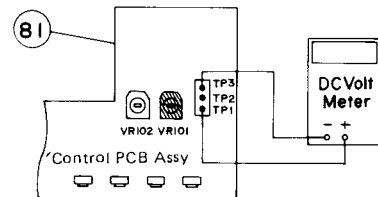
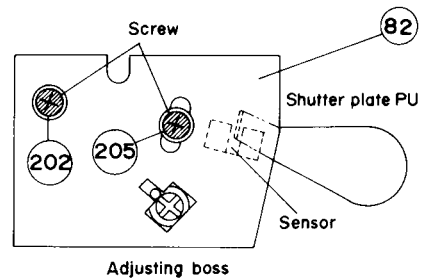

Figure 24
Figure 25
- (1) Remove the cabinet top according to "1. Removal of Cabinet Top" (page 4).
- (2) Press this POWER button so that the unit will be switched on.
- (3) Connect the D.C. voltmeter between TP1 and TP3 terminals on Control PCB Assembly "81" (Figure 24).
- (4) Slightly loosen two screws, "202" and "205", which fasten the Photo PCB Assembly "82" (Figure 25).
- (5) Turn the adjusting boss counterclockwise with the screwdriver (Figure 25).
- (2) Press the POWER button so that the unit will be switched on.
- (3) Connect the D.C. voltmeter between TP1 and TP3 terminals on Control PCB Assy " (81) " as shown in Figure 24. Slightly loosen two screws, " (202) " and " (205) ", which fasten the Phono PCB Assy as shown in Figure 25. Turn the adjusting boss with a screwdriver so that the voltmeter shows $-0.5 \sim +0.5$ volts.